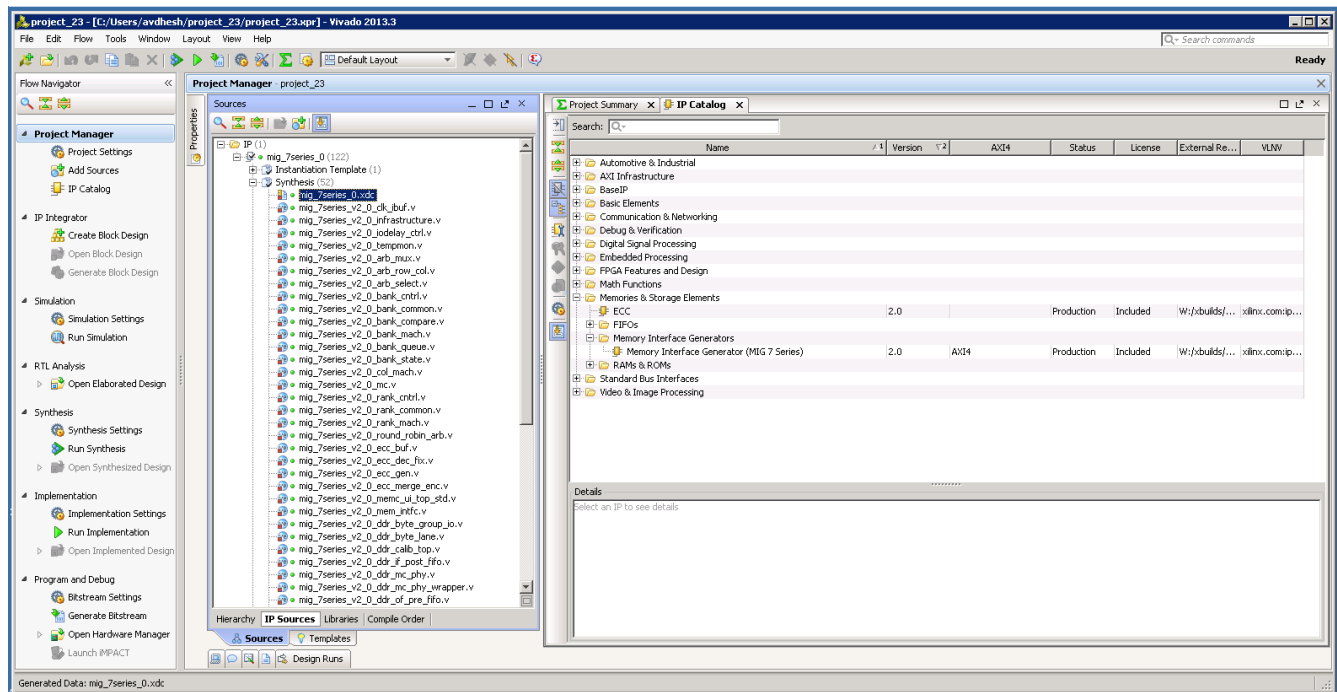

Figure 1-35: Vivado Project – RTL and Constraints Files
8. All user-design RTL files and constraints files (XDC files) can be viewed in the **Sources > Libraries** tab (Figure 1-35).